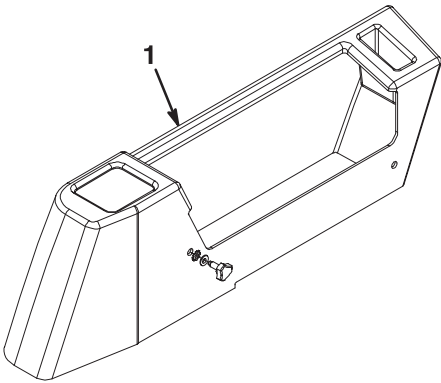

Figure 7
10. Remove the control panel cover located to the right of the operator's position (Fig. 7).
21. Install the control panel cover (Fig. 7).